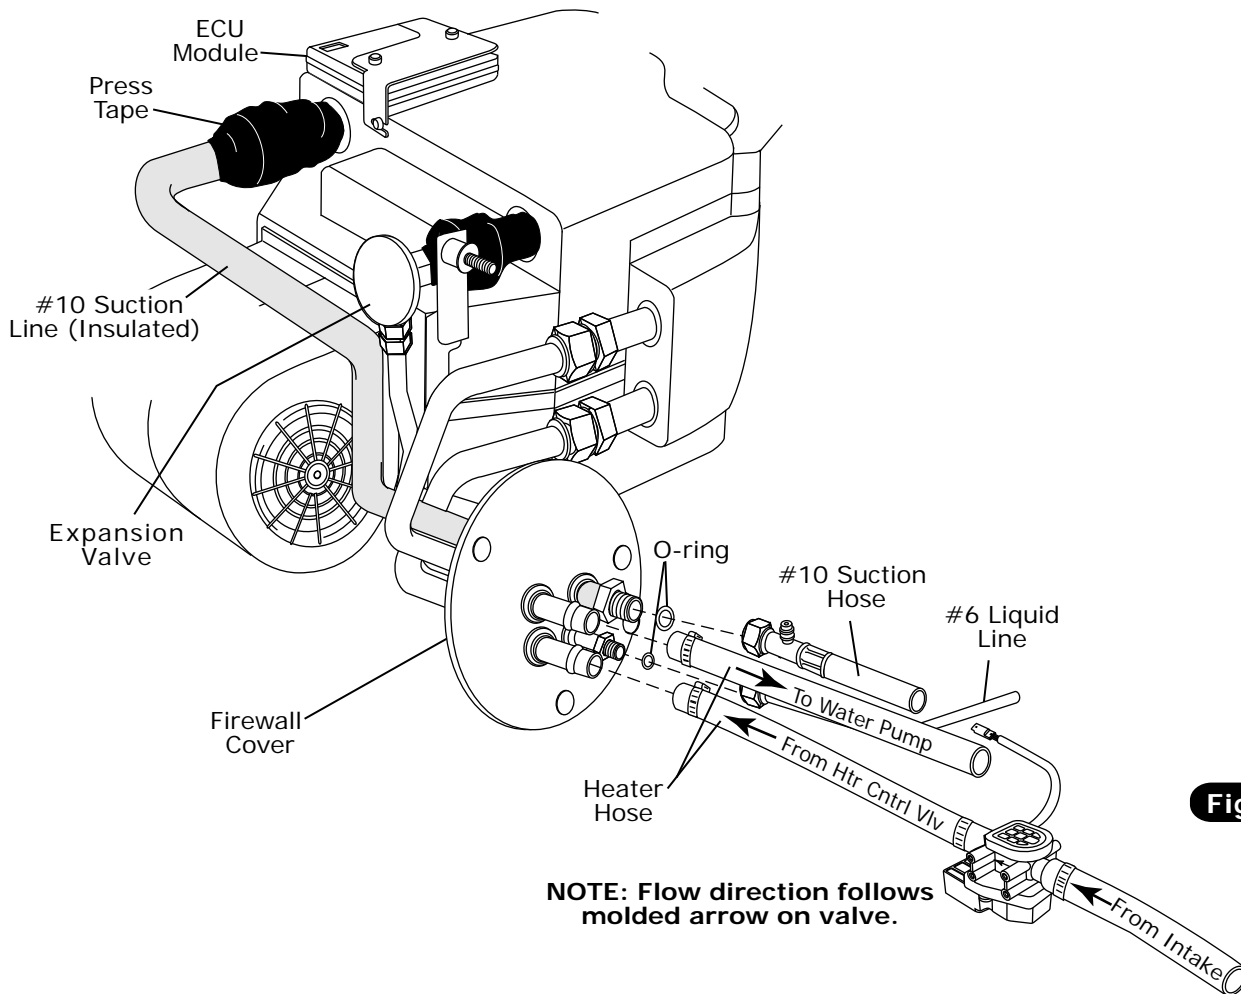

Figure 11
1. Route a piece of heater hose from the water pump to the heater line coming through the firewall as shown in Figure 10, Page 14, and Figure 11, Page 15. Secure using hose clamps.
2. Route a piece of heater hose from the intake to the heater line coming through the firewall as shown in Figure 10, Page 14, and Figure 11, Page 15. **NOTE: Install heater control valve in line with intake manifold (pressure side) heater hose, and secure using hose clamps as shown in Figure 11, Page 15. Also note proper flow direction.**